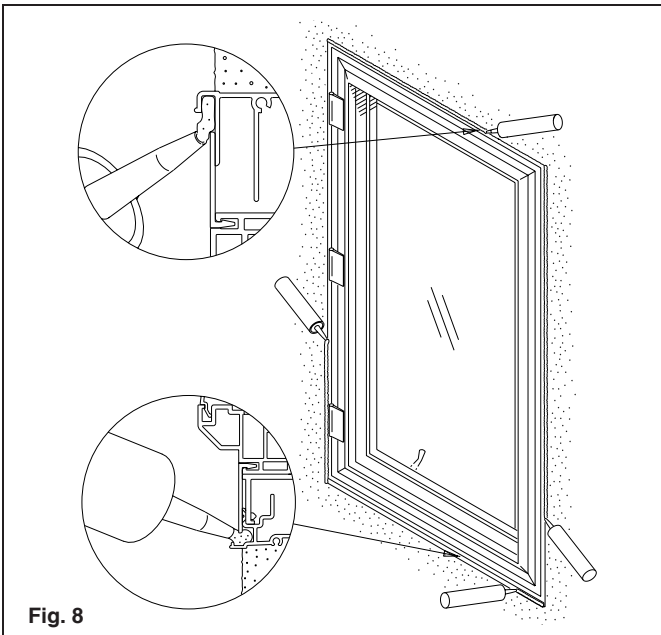

Fig. 8
B. Use a recommended sealant for the type of job and materials being used to apply a continuous bead of sealant around the outer edge of the trim you just installed. See **Fig. 8**.